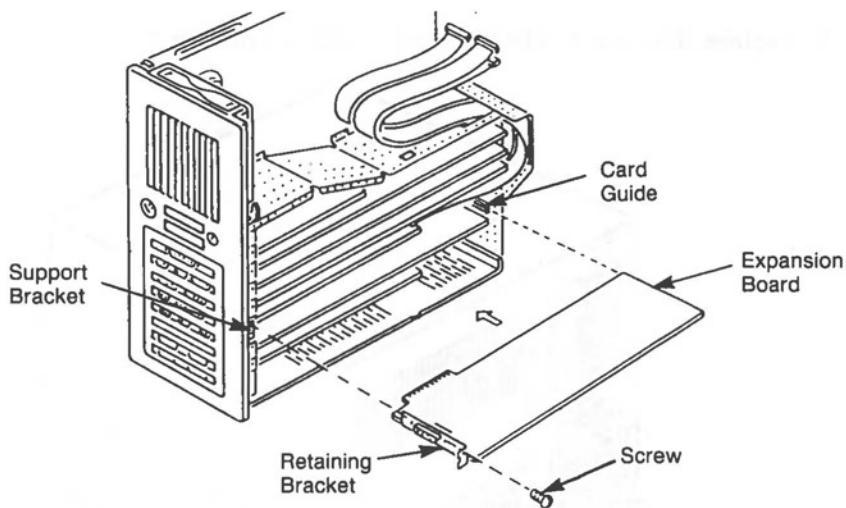

Figure 3-6 Card Guide and Board Alignment
4. Line up the board with the support bracket and the card guide in the card rack (see Figure 3-6).
2. Remove the screw holding the board retaining bracket (refer to Figure 3-6).